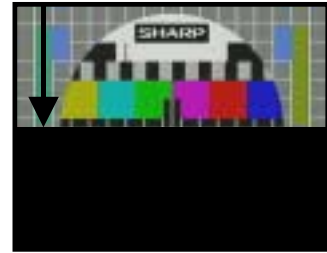

Fig. 6
- b) Adjust the vertical linearity to obtain picture centring (fig. 6).